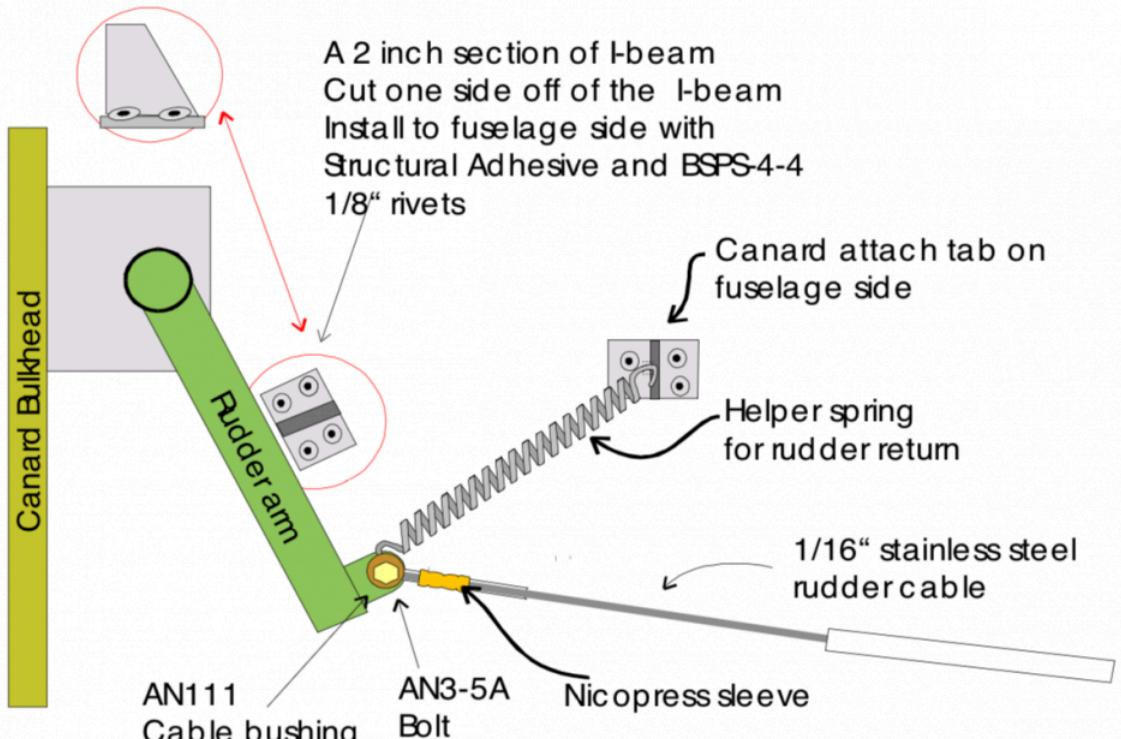

Figure 10-7. Rudder Cable to Rudder Pedal Attachment
— Run a length of stainless steel cable down each side of the fuselage. Keep the end with the cable bushing up at the rudder pedals. Leave yourself approximately 12" of cable extending through the firewall. Install the cable bushing at the rudder pedals as shown in Figure 10-7.
Allow the rudder to go back to its neutral position and the rudder pedal to come back from the bulkhead. With the rudder pedals in this position put your rudder pedal stop here as shown in Figure 10-7. From this position now you are allowed to get 3-1/2" of rudder travel before contacting the canard bulkhead.
Lightly clamp the aileron torque tube just outboard of the aileron bellcrank to keep the aileron bellcrank from turning. We will locate the cable clamp before we permanently install the aileron bellcrank. You will need two Cable Clamp angles and the cable Clamp strap. Position the Cable clamp angles on the wing flanges as shown in figure 10-7. Install the cable clamp strap to the angles leaving .
____ Drill two 3/16" holes and clamp the cable to the strap with (2) AN3-5A bolts, (2) AN960-10L washers, and (2) MS21042-3 nuts. Install the cable clamps and shims as shown in figure 10-7.